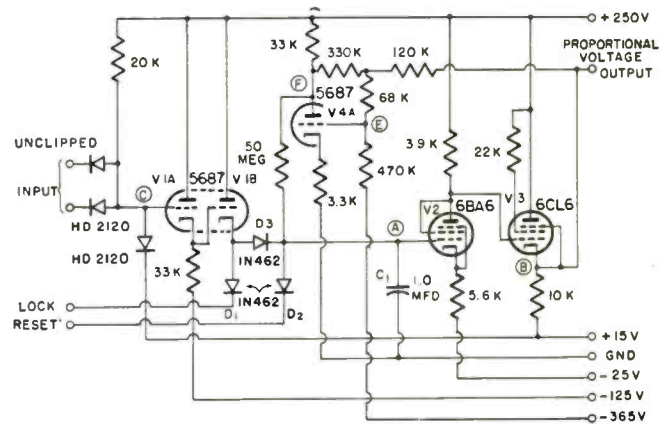

Fig. 5: Comparator circuit generates voltage for measuring units.
Referring to the circuit diagram of Fig. 5, we find that when P1 and P2 are both down, diode D2 conducts until the potential at point (A) is -25 volts. Under these circumstances V2 will conduct lightly, V3 will conduct heavily, and the potential at point (B), the proportional voltage output, will be roughly $+150$ volts. At the moment that reading of the first character of an address is begun, the outputs of P1 and P2 go to $+15$ volts. Under these circumstances, D1 and D2 can have no effect other than to prevent the potentials at points (A) and (D) from rising above $+15$ volts. The locator unit meanwhile tracks the bottom of the bottom line in the address, due to the fact that envelopes are scanned from bottom to top. With the proportional voltage still up at its maximum possible potential, M1 will get up slightly above the bottom of the bottom line in the address. We see then that whenever a scan signal is detected just after M1 gets up, the potential at point (C) will be forced to $+15$ volts. Under these circumstances the potential at (A) will be less than that at (D) and V1B will charge capacitor C1 through